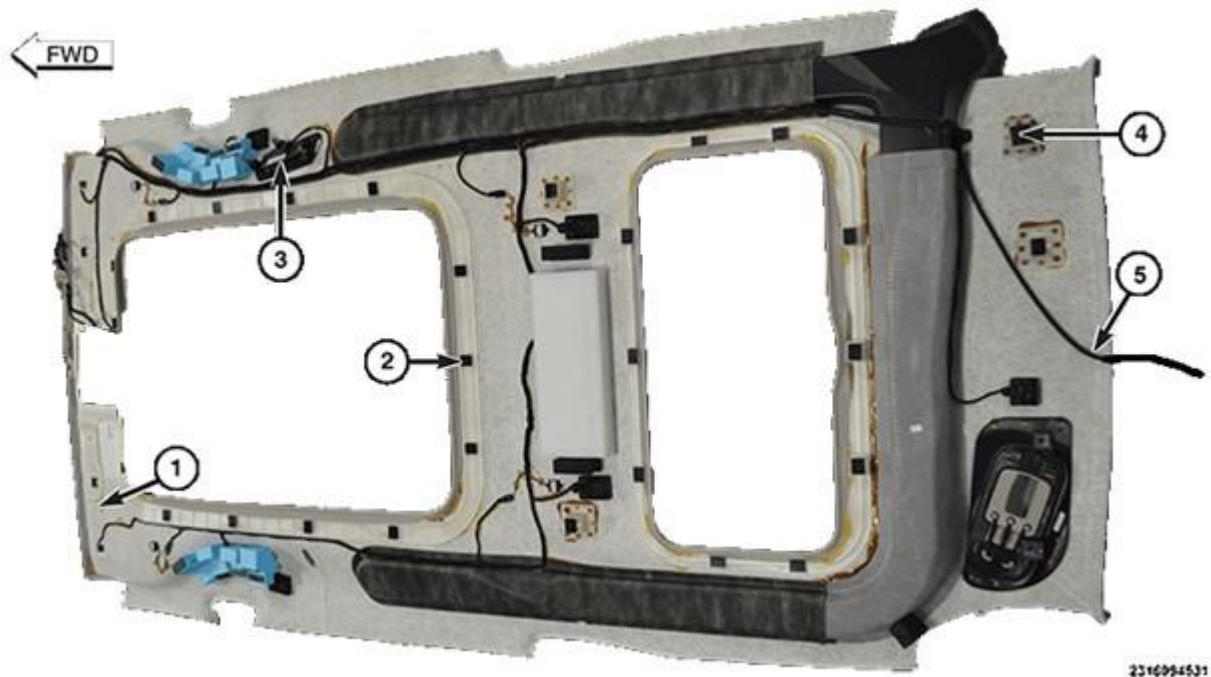

Figure 24 – Headliner is Shown Lowered for Reference
50. With the help of an assistant starting at the rear of the vehicle, release the hook and loop fasteners by hand, then around the sunroof openings, if equipped (Figure 24).
52. Lower the rear of the headliner slightly and disconnect the rear window washer hose (Figure 24).
53. Carefully pull the headliner downward releasing all the hook and loop fasteners (Figure 24).
70. Connect the rear window washer hose (Figure 24).
71. Attach all the hook and loop fasteners (Figure 24).